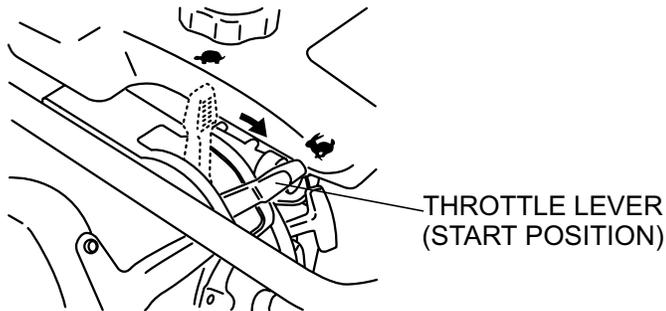

Figure 10. Throttle Lever (Start Position)
1. To start the rammer tamping action, move the throttle lever (Figure 10) **quickly** from **IDLE** to the **START** position. **DO NOT** move the throttle lever slowly as this may cause damage to the clutch or spring.